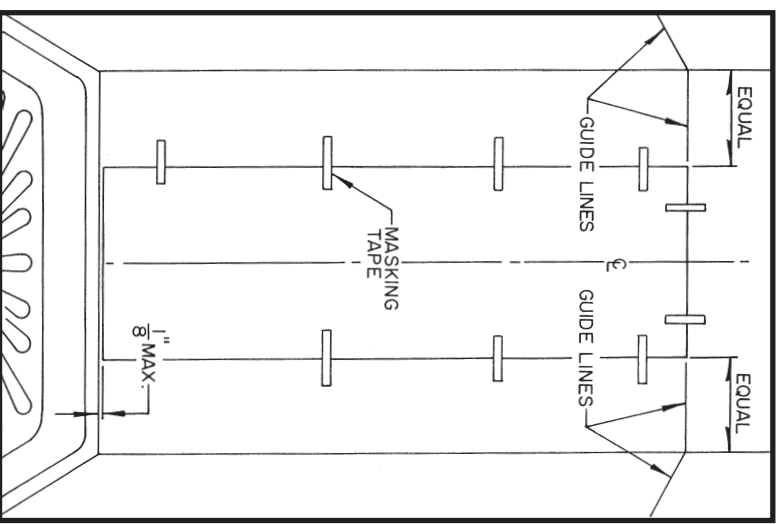

Fig. 3
1. Determine if any trimming will be required on your shower wall **BEFORE APPLYING ADHESIVE!** Set Center Panel in place, raised approximately 1/8" above top ledge of shower base and centered on back wall. A few strips of masking tape will hold panel in place while you draw a pencil line all around panel. **NOTE:** These lines will be a guide when you are ready to permanently install the panel. Temporarily tape Corner Panels in position, align top edge of Corner Panels with top edge of Center Panel. The Corner Panels should not overlap the Center Panel by more than 1 3/4". If the overlap is not satisfactory, trim the Center Panel the required amount to arrive at the 1 3/4" maximum overlap. Be sure to redraw your Center Panel guide lines if panel required trimming. Panels may be trimmed easily with a razor knife and straight edge. **DO NOT TRIM FORMED CORNER PANELS!** (Fig. 3).